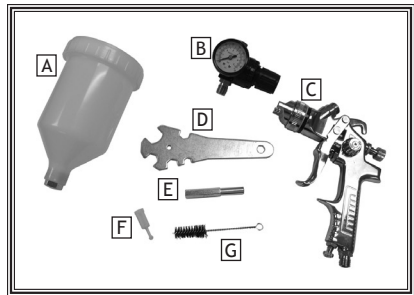
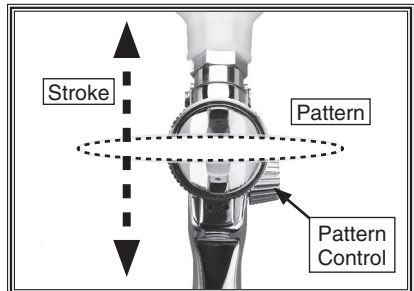

Figure 1. Model D3274 inventory.
Figure 9. Set up for vertical spray stroke with horizontal fan pattern.
D3274 Inventory (Figure 1)	Qty
4. Disassemble the gun by unscrewing the fluid control knob by hand, and removing the spring and needle (Figure 9).
5. Unscrew the atomizing cap with your fingers and the fluid tip with the service wrench (Figure 1). The fully disassembled gun should look like Figure 9.